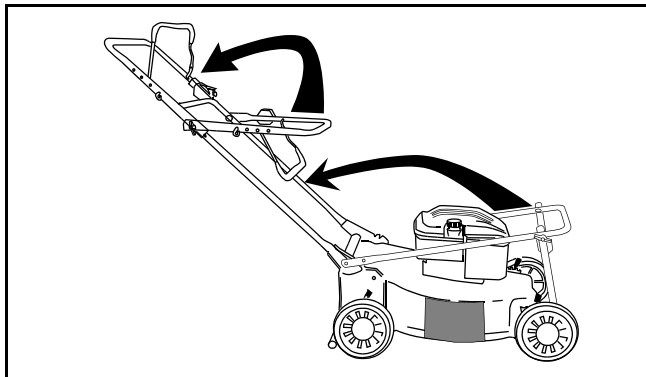

Figure 1
- For shipping purposes, the grass bag was placed on top of the unit. Remove it from the unit and set it out of the way. See Figure 1 .
- Raise the lower handle, as shown in Figure 1 , until it snaps into place.
- Raise the upper handle as shown in Figure 1 .